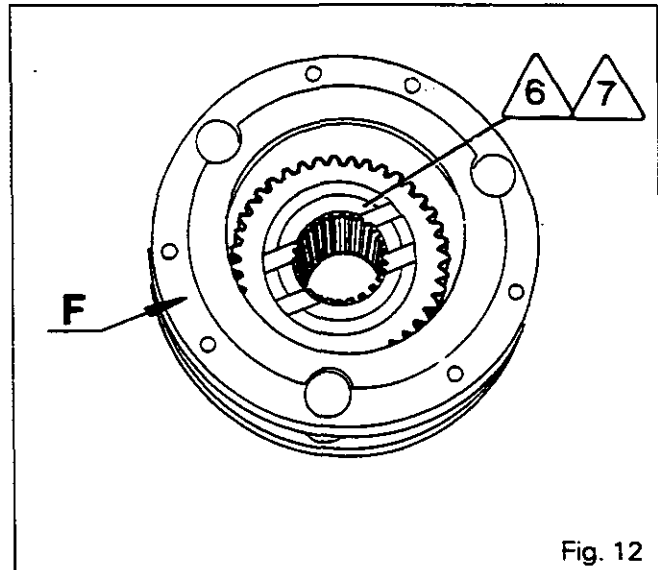
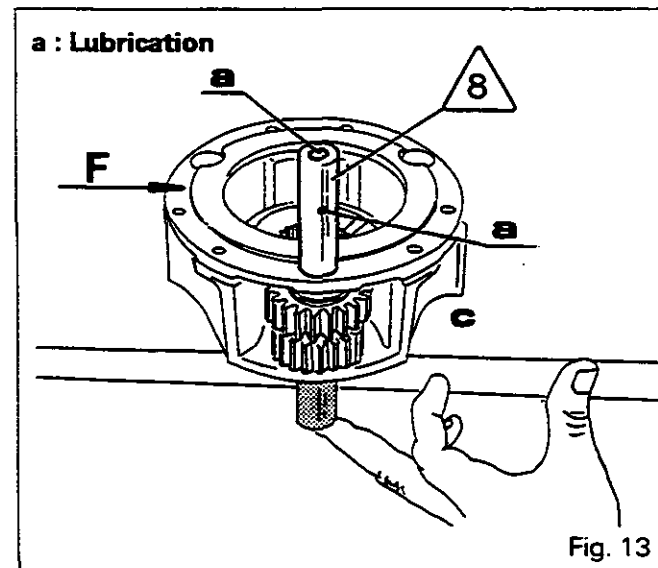

Fig. 12
Fig. 13
32. Fit the 39 tooth sun gear /6\ into the planetary carrier cover (Fig.12).
33. Fit the 36 tooth sun gear /7\ into the planetary carrier cover (Fig.12).
34. Fit the 39 tooth sun gear /6\ into the planetary carrier cover (Fig.12).
N.B. : In all versions, fit the gear so that the lubricating grooves in it are facing towards face F of the planetary carrier cover (Fig.12).
35. Fit a needle-roller bearing (11), a spacer (14) and a needle-roller bearing (16) into a planetary gear /12\.
36. Fit an assembled planetary gear into the cover, with the following gears closer to face F in the respective cases (Fig.13) :
37. Fit washers (10) and (17).
38. Line up the planetary gear and washers with a locating rod made up locally : diameter = 16 mm, length = 80 mm (Fig.13).
N.B. : The oilway opening onto the circumference of spindle /8\ must face outwards. The oilway opening onto the endface of spindle /8\ must face towards face F of the planetary carrier cover (Fig.13).